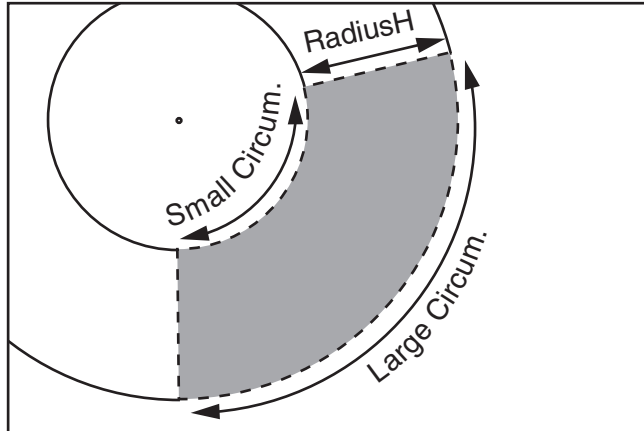

Figure 48. Dimensions to measure for accuracy.
10. Measure values shown in see **Figure 48** and compare to values calculated in previous sections.